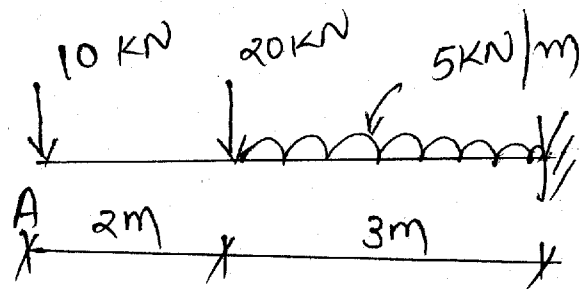

Fig. 4
- 3 Calculate slope and deflection at point A. Refer figure 4. 12